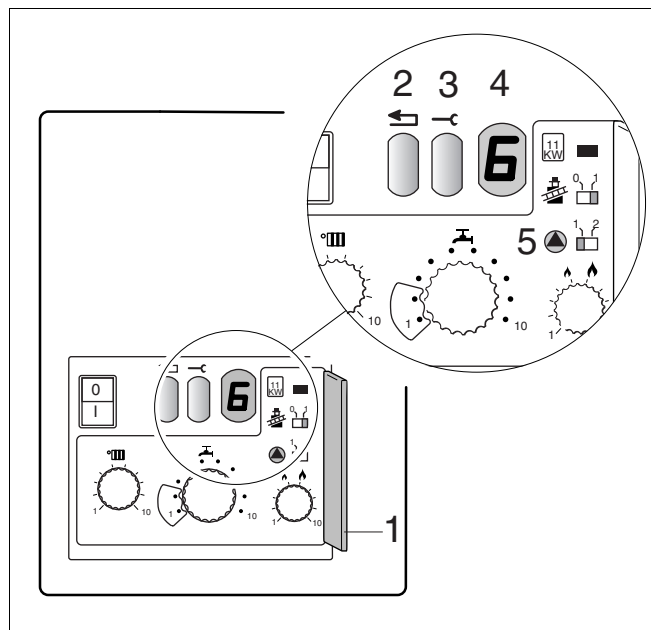

fig. 5 Operational and fault messages
- Open the cover of control level 2 (fig. 5, item 1).
- Turn the "pump" switch  into position "2" (24-hour pump over-run time) (fig. 5, item 5).
Operating conditions or possible faults are shown on the display (fig. 5, item 4). The message is displayed in form of two characters. The second character is displayed after pressing the service button (fig. 5, item 3).